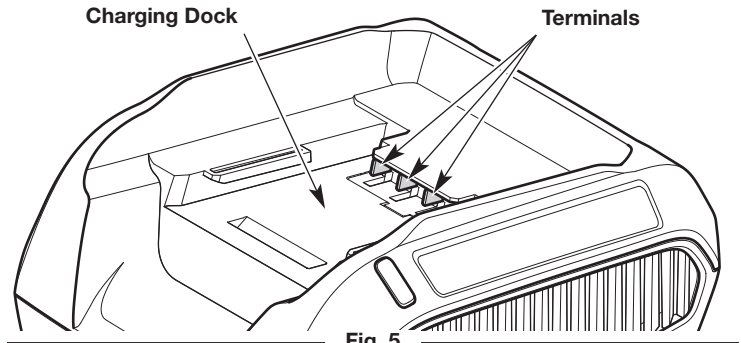

Fig. 5
- Keep the battery charger clean and clear of debris. Do not allow foreign material into the charging dock or onto the terminals (Fig. 5). Inspect the battery charger for foreign material before each use.